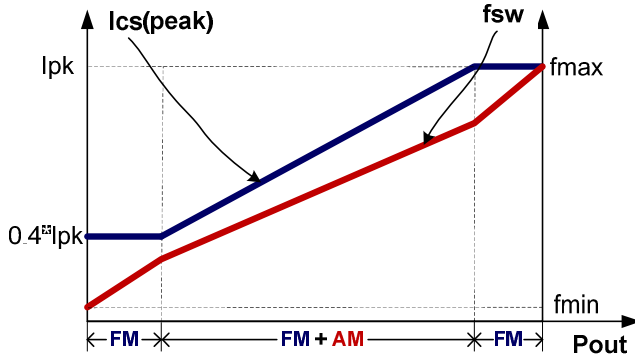

Fig.4
To meet the tight requirement of averaged system efficiency and no-load power consumption, a hybrid of frequency modulation (FM) and amplitude modulation (AM) is adopted in DP210X which is shown in the Fig 4.